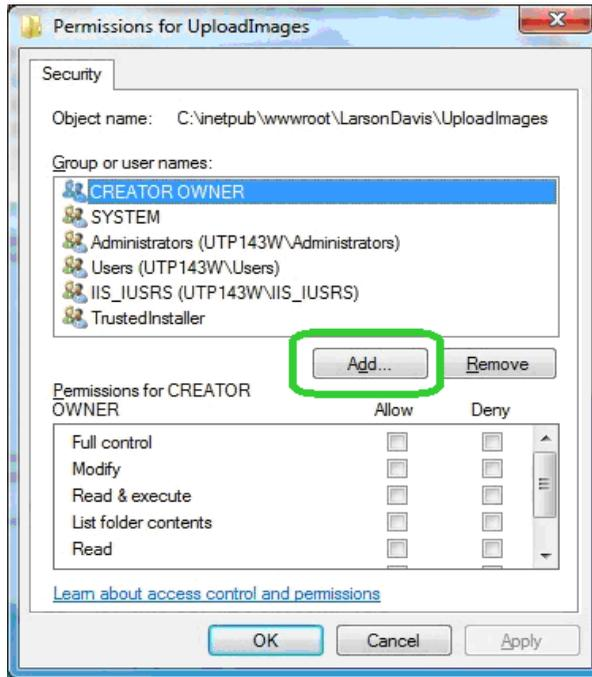

FIGURE 2-26 Permissions for UploadImages - Add
Step 24 On the **Permissions** dialog box, click **Add...**, as shown in **FIGURE 2-26**.